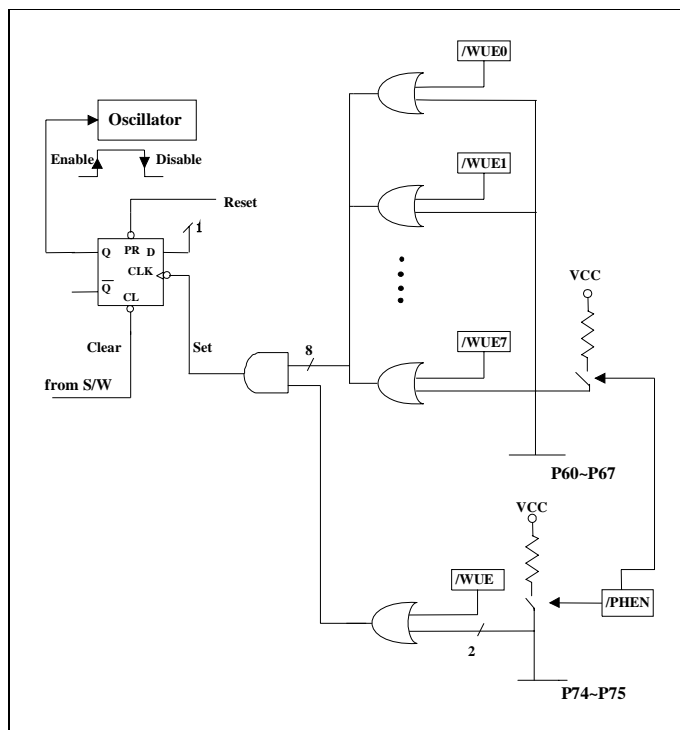

Fig. 5 Sleep Mode and Wake-up Circuits on I/O Ports Block Diagram
Bit 4 (SLPC): This bit is set by hardware at the low level trigger of the wake-up signal and is cleared by software. SLPC is used to control the oscillator operation. The oscillator is disabled (oscillator is stopped, and the controller enters into Sleep 2 mode) on the high-to-low transition and is enabled (controller is awakened from Sleep 2 mode) on the low-to-high transition. In order to ensure having a stable oscillator output, once the oscillator is enabled again, there should be a delay for approximately 18ms¹ (oscillator start-up timer, OST) before the next instruction of the program is executed. The OST is always activated by a wake-up event from sleep mode regardless whether the Code Option bit ENWDT status is "0" or otherwise. After waking up, the WDT is enabled if the Code Option ENWDT is "1". The block diagram of Sleep 2 mode and wake-up invoked by an input trigger is depicted in Fig. 5. The SLPC bit can be read and written to.
- (A) Any of the wake-up pins is "0" as illustrated in Figure. 5. Upon waking, the controller will continue to execute the succeeding address. In this case, before entering Sleep2 Mode, the wake-up function of the trigger sources (P60~P67 and P74~P75) should be selected (e.g., input pin) and enabled (e.g., pull-high, wake-up control). It should be noted that after waking up, the WDT is enabled if the Code Option bit ENWDT is "0". The WDT operation (to be enabled or disabled) should be appropriately controlled by software after waking up.
- (B) WDT time-out (if enabled) or external reset input on /RESET pin will trigger a controller reset.